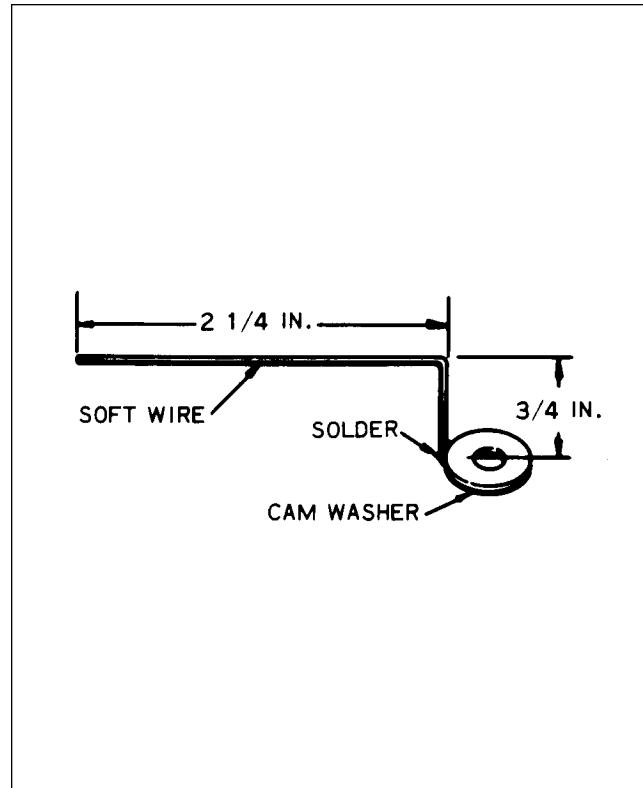

Figure 8-16. Fabricated Pointer
3. Fabricate a pointer as shown in Figure 8-16 and install the pointer under the cam screw so the pointer indexes in the center of "E" gap position.